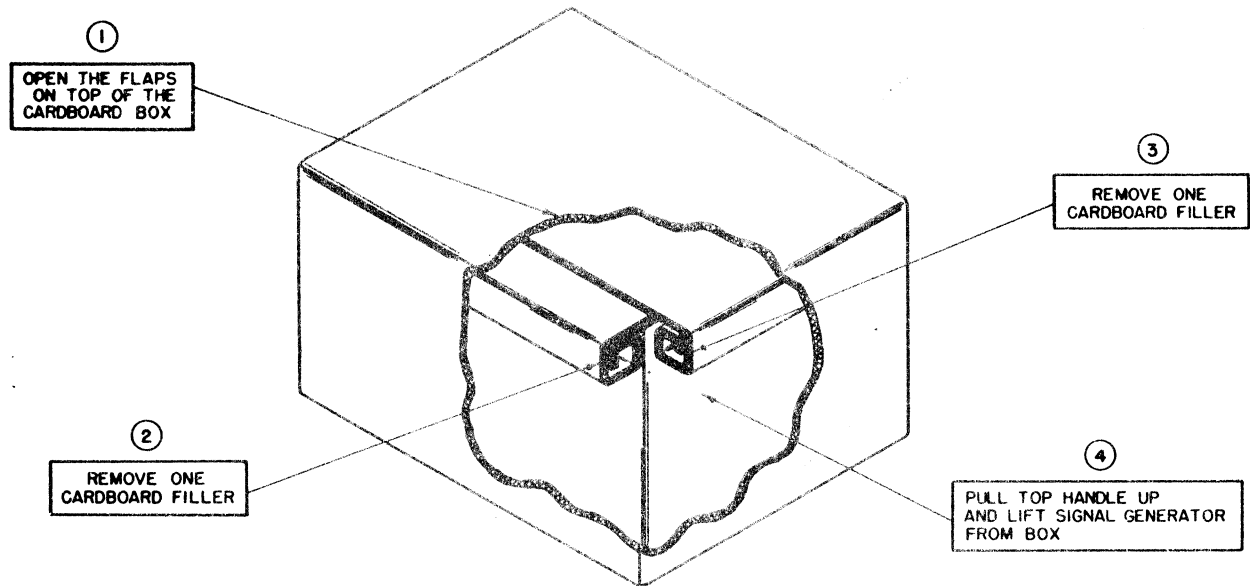

Figure 3-1. RF Signal Generator Set AN/URM-25C, Unpacking Procedure
a. The AN/URM-25C is packed for Domestic Commercial shipment as shown in figure 3-1. Electron tubes are shipped in place. Exercise great care in removing the signal generator with its accessories from the cardboard carton.